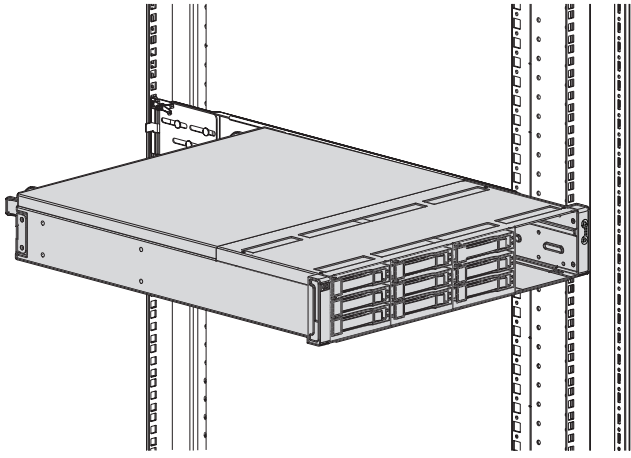

Figure 10 Securing the rear of the enclosure in the rack — view from front of rack
3. Continue sliding the enclosure into the rack until the front edge is flush with the front of the rack. (1, Figure 10)
4. Secure front of the enclosure to the front of the rack using the provided thumbscrews on the front of the device (2, Figure 10) and replace the front bezels.